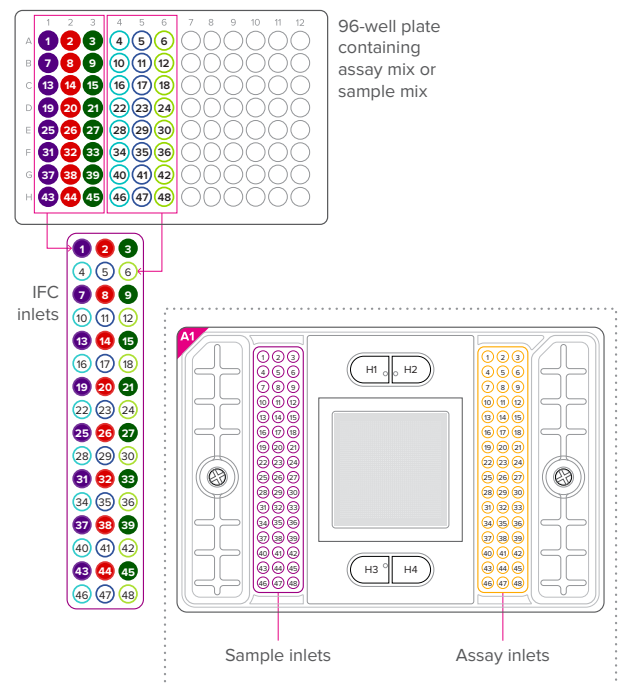

Figure 5. Loading map
- Before pipetting reagents, maintain traceability by noting the orientation of the A1 corner, assay inlets, and sample inlets, as shown in Figure 5.
- Pipet the 20X assay mixes and sample mixes into the LP 48.48 IFC as shown in Figure 5.